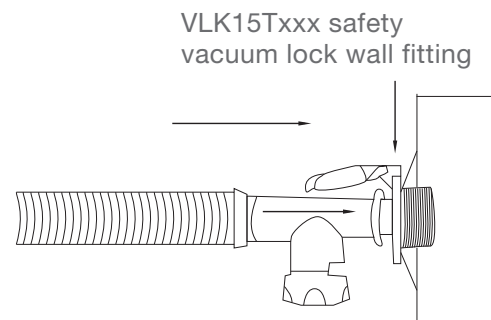

Fig. 5
- B. The wall port safety vacuum lock without a three-way or ball valve (see Fig. 5) or